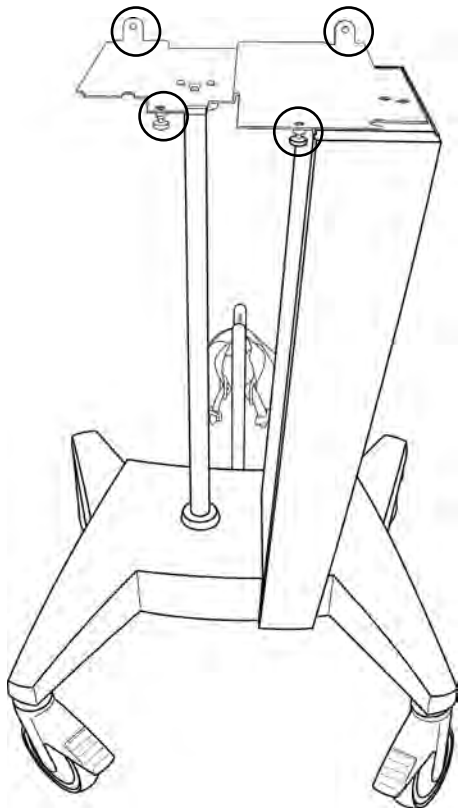

Figure 4.4 Wheeled base showing attachment points
Unscrew the (4) thumbscrews on the base to the ventilator body as shown in Figure 4.4 and detach from the wheeled base.